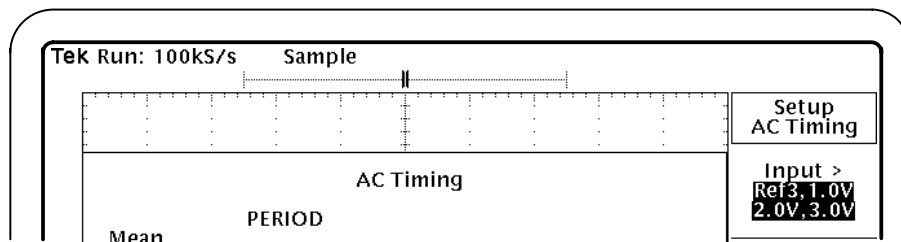

Figure 28: AC Timing setup complete
- c. Press Done (side). See Figure 28.